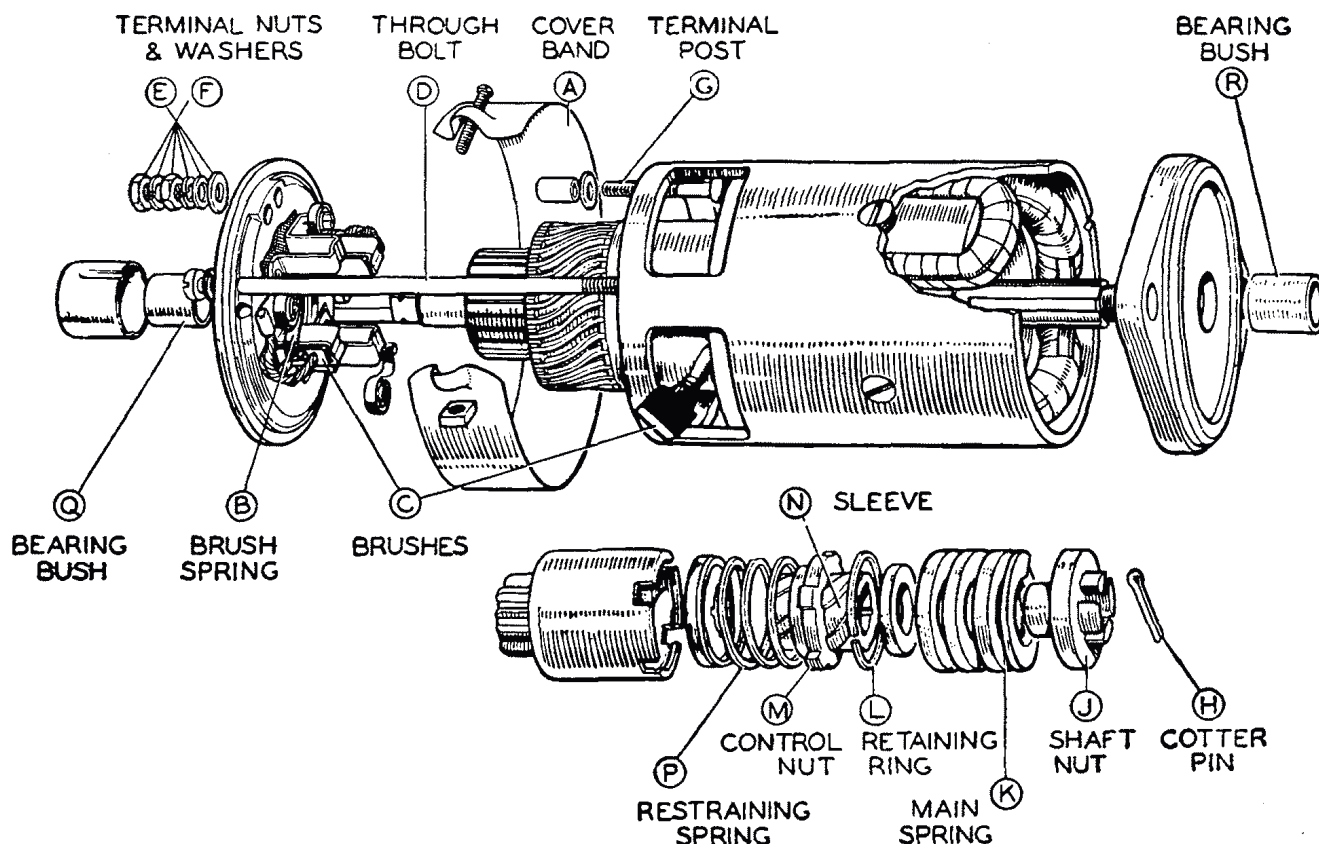

Fig. N.5.
Remove the starter cover band (A) (Fig. N.5) and examine the brushes (C) (Fig. N.5) and the commutator. Hold back each of the brush springs (B) (Fig. N.5) and move the brush by pulling gently on its
Take off the cover band "A" (Fig. N.5) at the commutator end, hold back the brush springs "B" (Fig. N.5) and take out the brushes "C" (Fig. N.5) from their holders.
- If the brushes are worn so that they no longer bear on the commutator, or if the flexible connector has become exposed on the running face, they must be renewed. Two of the brushes are connected to terminals eyelets attached to the brush boxes on the commutator end bracket. The other two brushes (Fig. N.5) are connected to tappings on the field coils.
To dismantle the drive, extract the split pin and remove the shaft nut "J" (Fig. N.5); withdraw the main spring and collar.